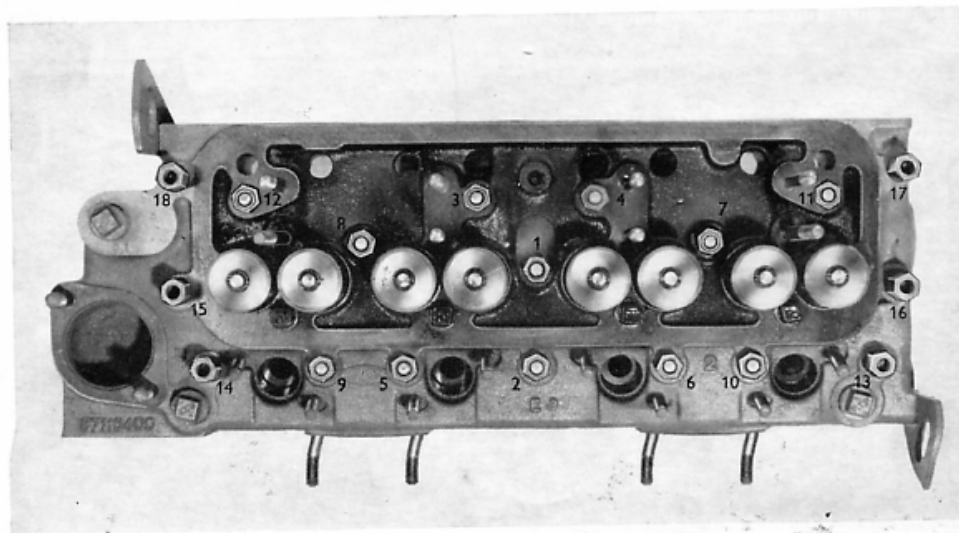

Fig. G.20.
3. Lubricate cylinder head studs and nuts, then tighten nuts progressively in three stages in the sequence shown in Fig. G.20. to the torque given on page B.2. This final torque tightening stage should be repeated.
down and the cylinder head nuts again tightened to the correct torque in the sequence shown in Fig. G.20. (Refer to Note below).
It is essential that the cylinder head nuts are re-torqued to 60 lbf ft (8,3 kgf m) after the first 15-30 hours with the engine hot and in the sequence shown in Fig. G.20.